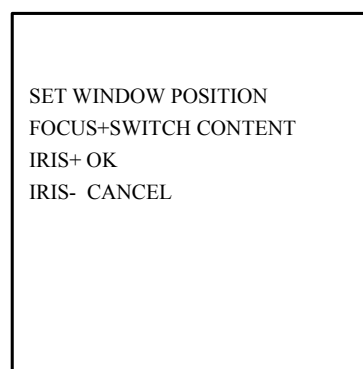

Figure 3.3.22
1. Use the joystick or direction buttons to position the cursor beside WINDOW SETTINGS and then press IRIS+ to enter the window blank settings menu. Refer to Figure 3.3.22. A purple smear window will appear on the screen (the color of window varies depending on camera models).